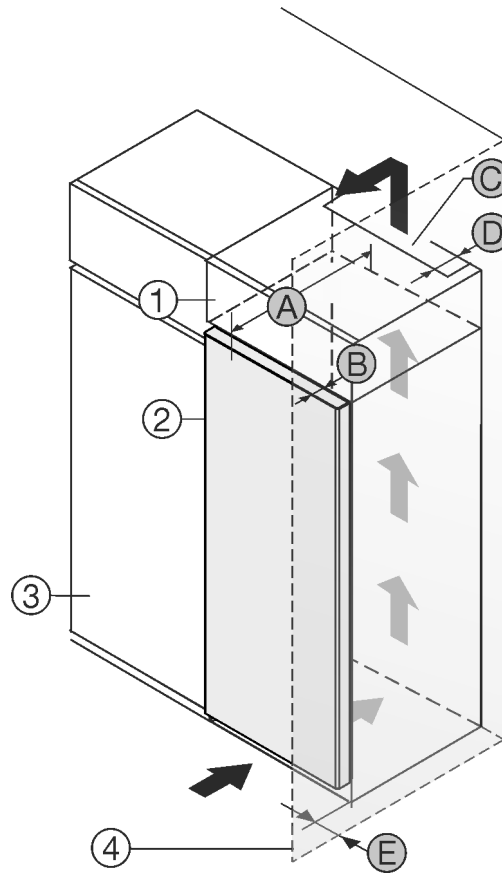

Fig. 1
- (1) Top cupboard \*
- (2) Appliance \*
- (3) Kitchen cabinet \*
- (4) Wall \*
- (A) Appliance depth \*
- (B) Door depth \*
- (C) Ventilation cross-section \*
- (D) Distance to the rear of the appliance \*
- (E) Distance to the side of the appliance \*
You can place the appliance directly beside the kitchen cabinet Fig. 1 (3).
There must be a ventilation shaft at the depth Fig. 1 (D) of the back of the top cupboard over the entire width of the top cupboard.\*
The cross section of the ventilation gap Fig. 1 (C) must be maintained below the ceiling.\*
If the appliance is set up with the hinges next to a wall Fig. 1 (4), the distance between the appliance and the wall must be at least 13 mm.\*
If the appliance is set up with the hinges next to a wall Fig. 1 (4), the distance between the appliance and the wall must be at least 20 mm.\*
In order to be able to fully open the door, the appliance must protrude by the depth of the door Fig. 1 (B) from the front of the kitchen cabinet. Regardless of the depth of the kitchen cabinets Fig. 1 (3) and use of wall spaces, the appliance can protrude further.\*